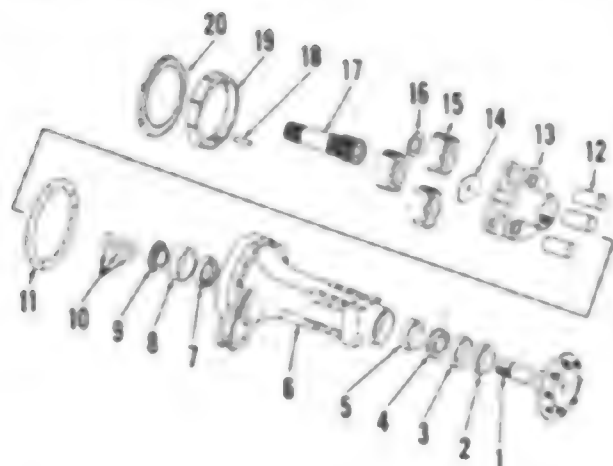

Fig. 143 - Exploded view of planetary and rear axle components.
RIER. With final drive assembly removed as outlined in paragraph 117, proceed as follows: Remove outer brake disc (20 - Fig. 143) and cap screw securing the planetary unit to axle shaft.
**119. OVERHAUL REAR AXLE AND RING GEAR.** If it is necessary to remove the ring gear (19—Fig. 143), remove planet carrier as outlined in paragraph 118. Using a pusher arrangement, push on inner end of axle to